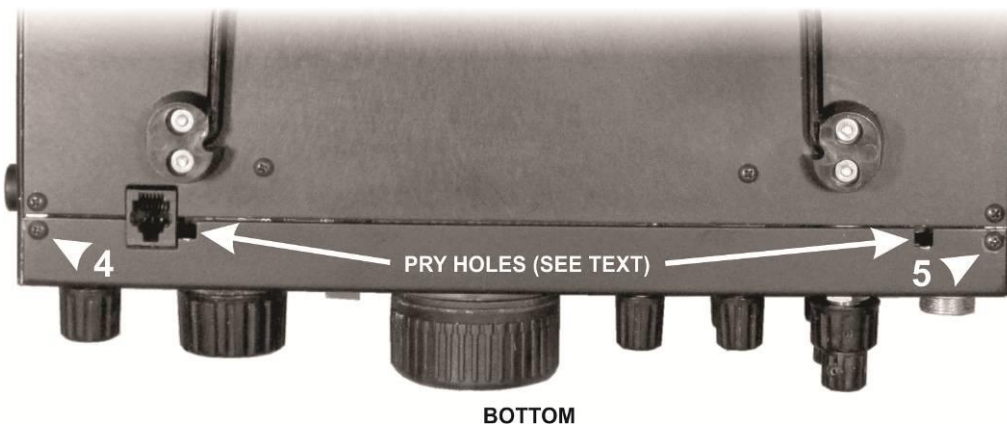

Figure 6. Removing the Bottom Front Panel Screws.
- Turn the K3/K3S over and remove the two screws on the bottom shown in Figure 6